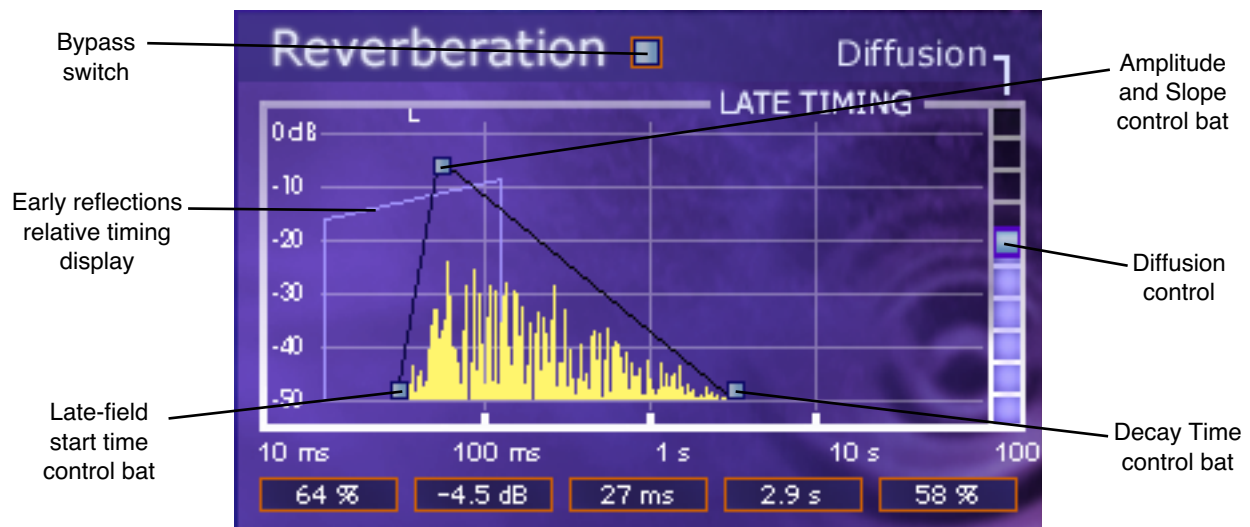

Figure 77. DreamVerb Reverberation panel
The parameters in the Materials panel, in conjunction with the Shape panel (Figure 74 on page 207) and Reverberation panel (Figure 77 on page 213) effect the spatial characteristics of the reverb.
Note: While materials are used to control decay rates as a function of frequency, the overall decay rate of the late-field reverberation is controlled from the Reverberation panel (see Figure 77 on page 213).
The Reverberation panel (Figure 77) contains the parameters that control the late-field (LF) reverb tail for DreamVerb.